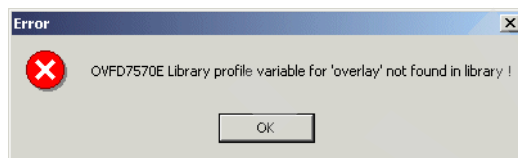

Figure 56. Failure to find default library for overlay resource
- Messages such as the one shown in Figure 56